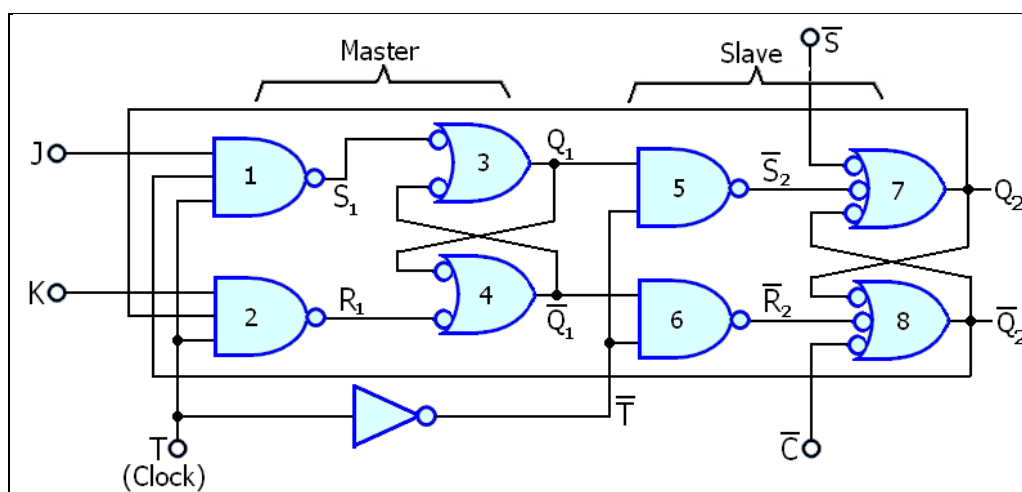

Fig. 3.3-12 Master-Slave JKFlip/Flop with Set and Clear Inputs
As shown in Fig. 3.3-12, the master flip/flop at the input circuit is an **RST** type where the logic signals to the JK-flip/flop are applied to set or reset its output. Depending on the states of JK inputs (active high), the clock **T** transfers **J** or **K** bit (whichever is high) to the master flip-flop output (**Q**) at the leading edge of the clock pulse ( $\uparrow$ ).
When the T-clock goes low, the master flip/flop is disabled at the input side and the inverted clock  $\bar{T}$  transfers the master output data to the slave flip-flop output (Q) at the trailing edge of the clock pulse ( $\downarrow$ ). Note that clock signal T controls the input gating of JK bits to the master flip-flop. The inverted clock signal  $\bar{T}$  disables the slave input gates while transferring data to the master flip/flop. The active low Set ( $\bar{S}$ ) and Clear ( $\bar{C}$ ) inputs directly connected to the slave control NAND gates may be used to apply forced-Set or Clear to the slave JK-flip/flop irrespective to the master outputs operating the slave flip-flop as RS latch. To set the slave latch, the  $\bar{S}$  input should be low and the  $\bar{C}$  input high. This forces the normal Q2 output to high logic storing a binary 1. To reset the slave latch, the  $\bar{C}$  input should be low and the  $\bar{S}$  input high. This forces the normal Q2 output to low logic storing a binary 0. Normally, the  $\bar{S}$  and  $\bar{C}$  inputs will be high when deactivated. This arrangement is identical to that for the NAND latch inputs. Now let's consider how the JK and T (clock) inputs affect the flip/flop. Referring to Fig. 3.3-12 for detailed internal circuitry with feedback connections, consider the time when the clock input is low. Gates 1 and 2 will be inhibited so the J and K inputs cannot control the state of the master latch when the master latch output may be in either state. At this time, the slave latch will have the same state as the master latch when the clock input is low. The output of the inverter in the clock line  $\bar{T}$  is binary 1, causing the gates 5 and 6 to be enabled during this time. Therefore, the state of the master latch is simply transferred to the slave latch.